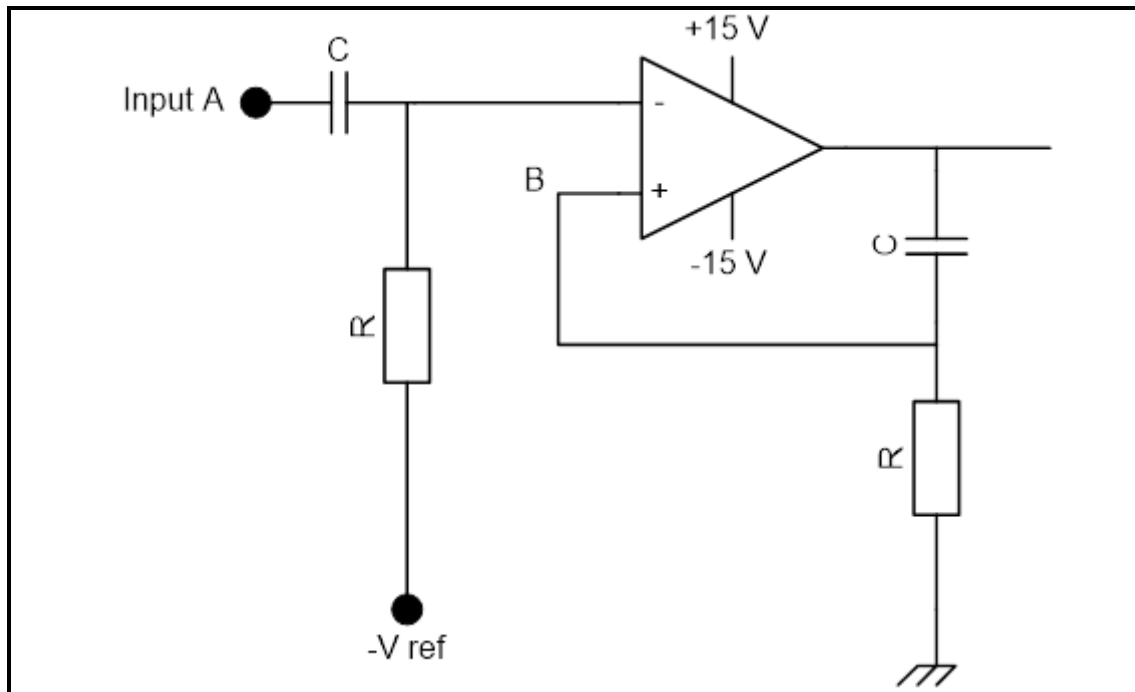

FIGURE 5.5: MONOSTABLE MULTIVIBRATOR USING 741 OP AMP
- 5.5 FIGURE 5.5 shows a circuit of a monostable multivibrator making use of a 741 op-amp. Analyse the circuit and answer the questions that follow.
- 5.5.1 Explain the function of the components in FIGURE 5.5 labelled as **R** and **C**. (3)
- 5.5.3 Explain the principle of operation of the monostable multivibrator in FIGURE 5.5. (6)